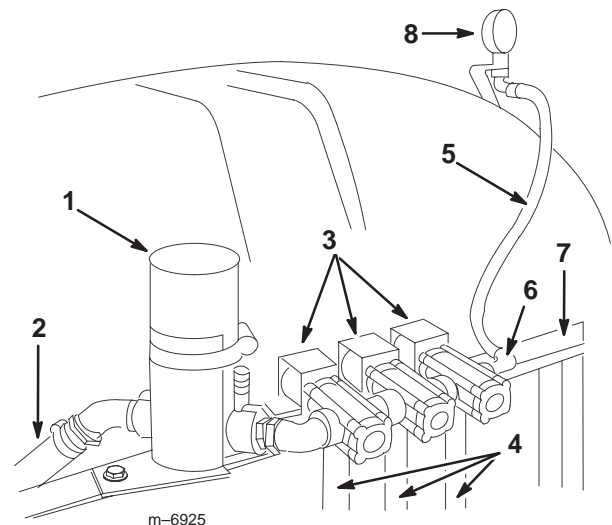

Figure 1
2. Loosen the hose clamp and detach the flow meter hose from the inlet port of the control valve (Fig. 1).
3. Loosen the hose clamps and detach the boom feeder hoses (3) from the solenoid barbs (Fig. 1).
4. Loosen the hose clamp and detach the pressure gauge hose from the 90° barb in the solenoid assembly (Fig. 1).
7. Remove the 90° barb from the solenoid assembly. Save the barb for later use (Fig. 1).